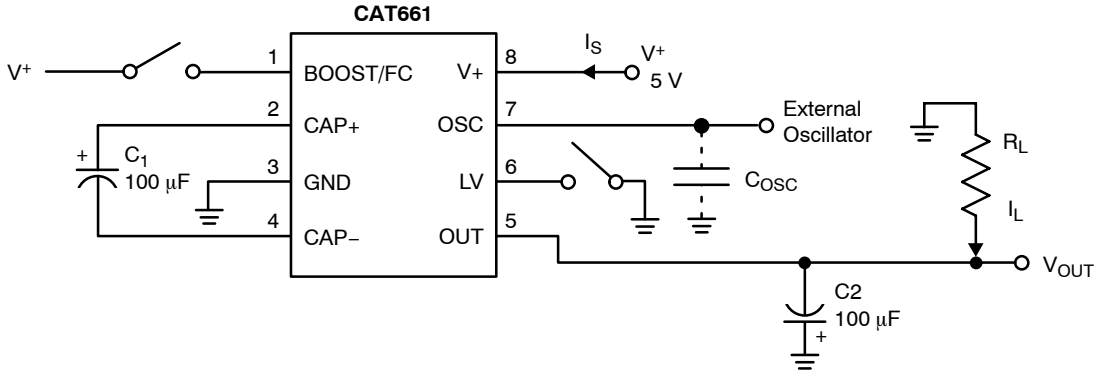

Figure 3. Test Circuit Voltage Inverter
**Table 3. ELECTRICAL CHARACTERISTICS** (V+ = 5 V, C1 = C2 = 100 μF, Boost/FC = Open, COSC = 0 pF, and Test Circuit is Figure 3 unless otherwise noted. Temperature is TA = TAMIN to TAMAX unless otherwise noted.)
- In Figure 3, test circuit electrolytic capacitors C1 and C2 are 100 μF and have 0.2 Ω maximum ESR. Higher ESR levels may reduce efficiency and output voltage.
(Typical characteristic curves are generated using the test circuit in Figure 3. Inverter test conditions are:  $V_+ = 5\text{ V}$ ,  $LV = \text{GND}$ ,  $\text{BOOST/FC} = \text{Open}$  and  $T_A = 25^\circ\text{C}$  unless otherwise indicated. Note that the charge-pump frequency is one-half the oscillator frequency.)